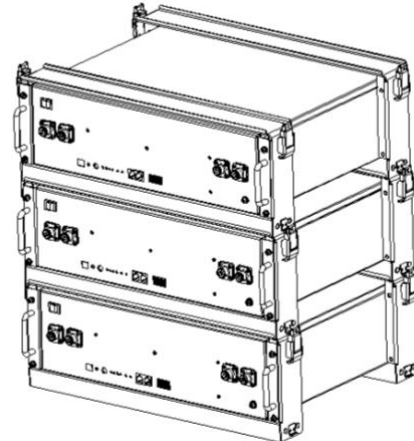

Figure3-6
3. Stack the fixed M3000 and the bracket as shown in the figure 3-6, and fasten the buckle between the upper and lower sides.